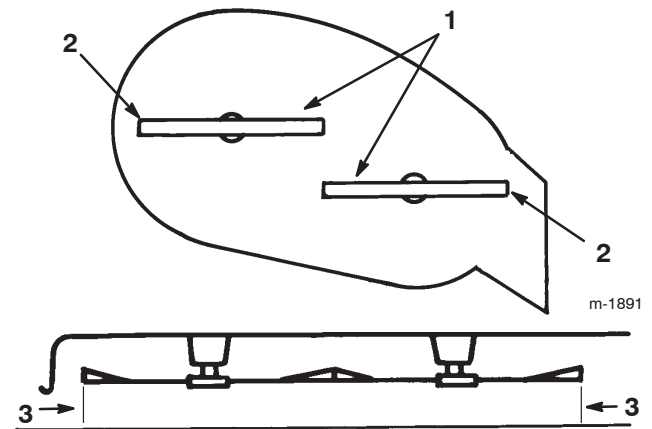

Figure 48
5. Carefully rotate the blades side to side (Fig. 48). Measure between the outside cutting edges and the flat surface (Fig. 48). If both measurements are not within 3/16 in. (5 mm), an adjustment is required; refer to steps 6 and 7.